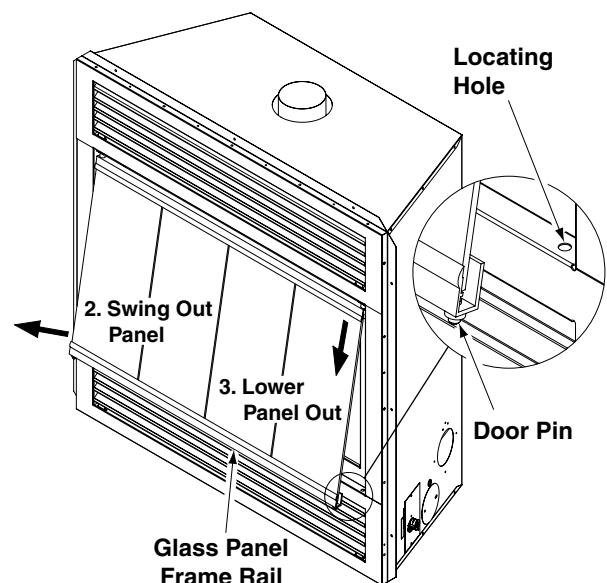

Figure 30 - Removing/Replacing Glass Door
2. Swing bottom glass panel assembly out until the door pins on the lower rail clears the bottom face frame (see **Figure 30**).